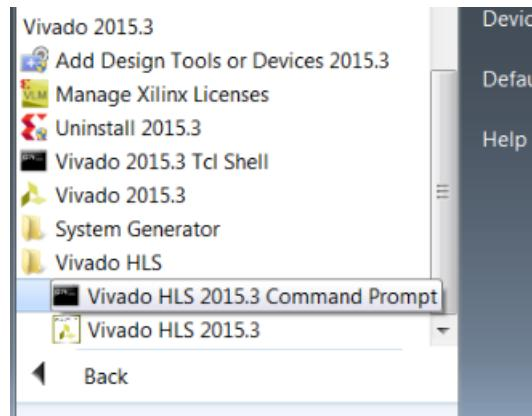

Figure 7-1: Vivado HLS Command Prompt
- On Windows use **Start > All Programs > Xilinx Design Tools > Vivado 2015.3 > Vivado HLS > Vivado HLS 2015.3 Command Prompt** (Figure 7-1).